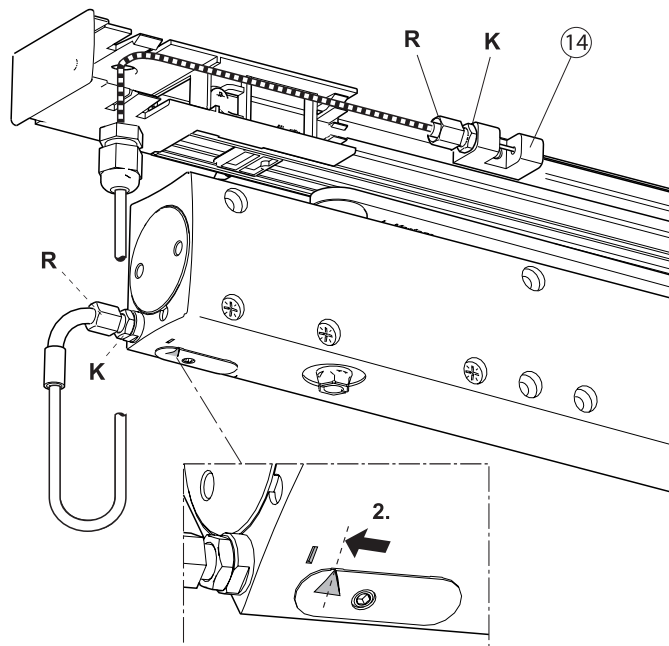

Fig.: 6.6.1
- ▶ Tension wire rope so that the IS valve (fig. 6.6.1) at door closer on moving-leaf end **cannot** be operated (4.).